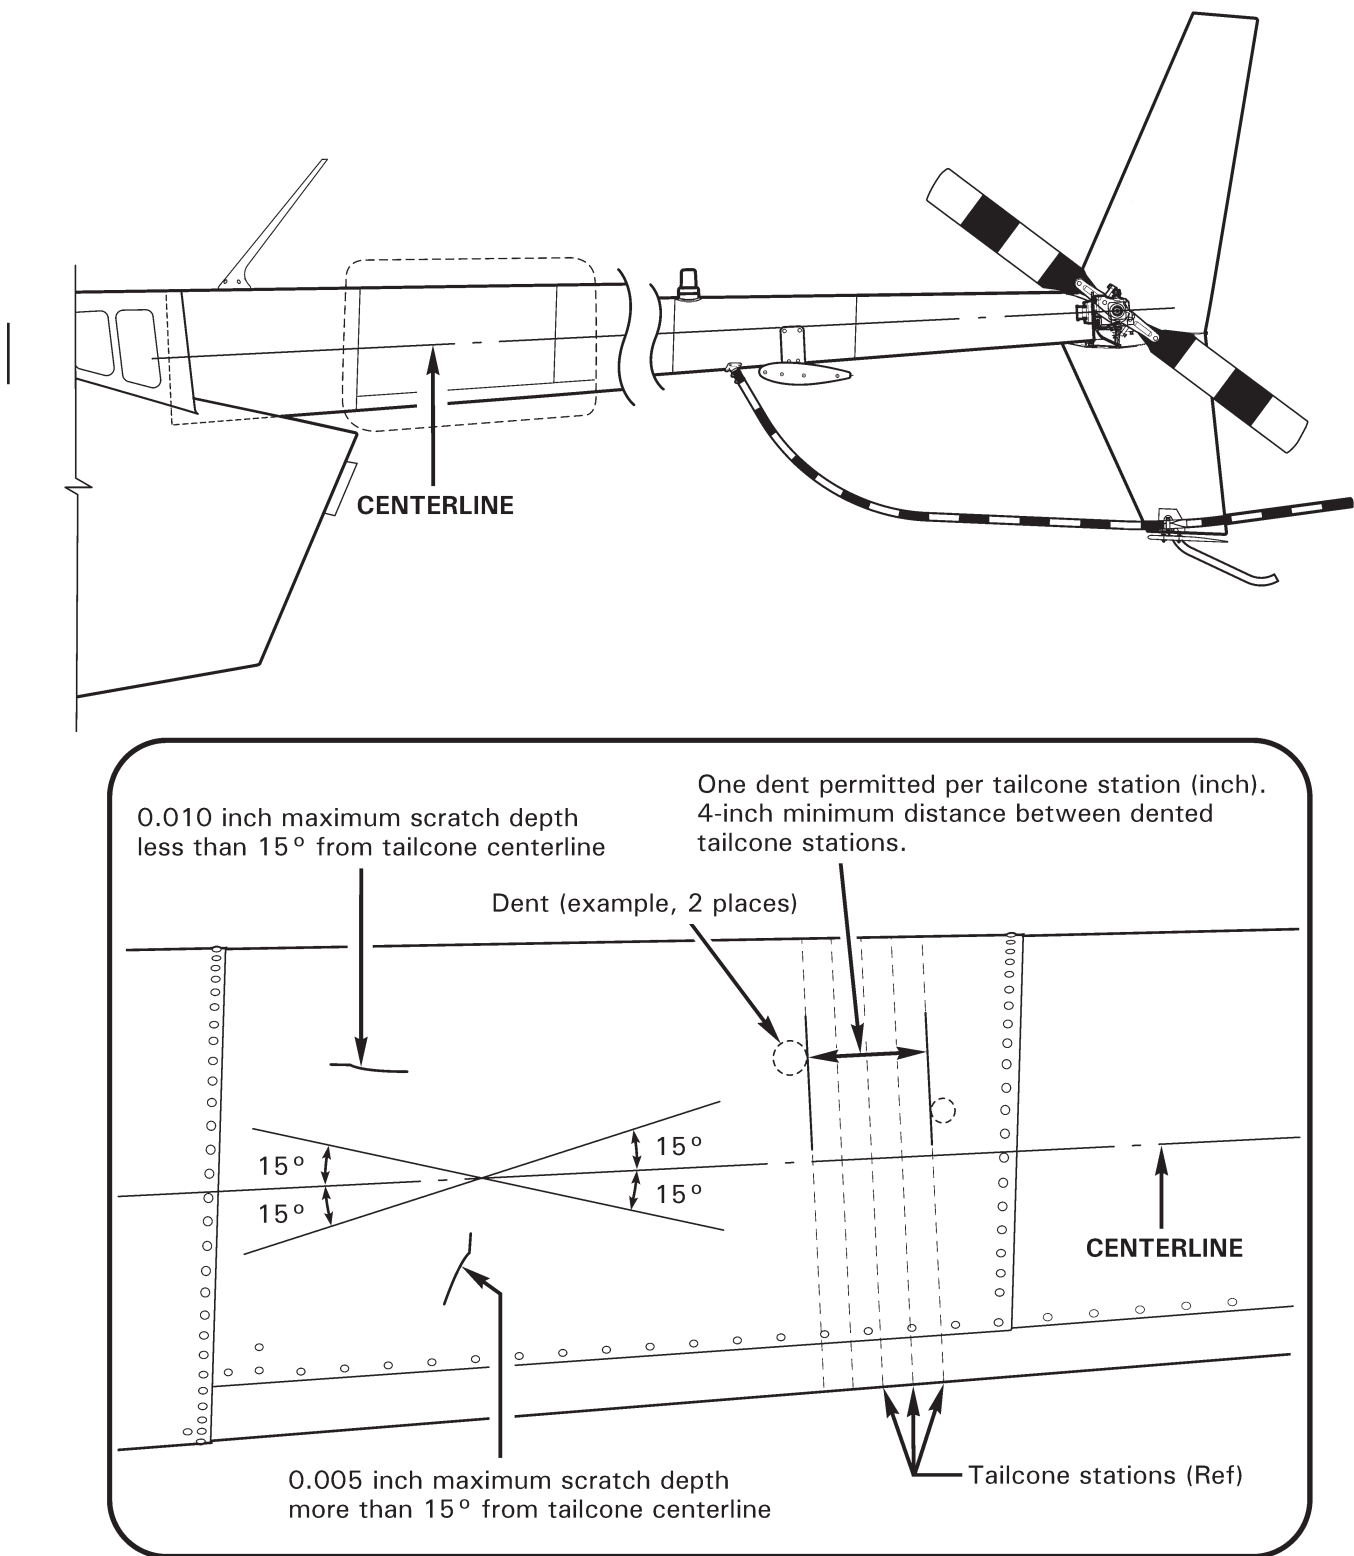

FIGURE 53-5 TAILCONE INSPECTION AND REPAIR
1. Refer to Figure 53-5. Verify damage does not exceed the following limits:
1. Refer to Figure 53-5. Smooth, round bottom dents with 0.125 inch minimum radius without sharp nicks or cracks are acceptable when damage does not exceed the following limits: